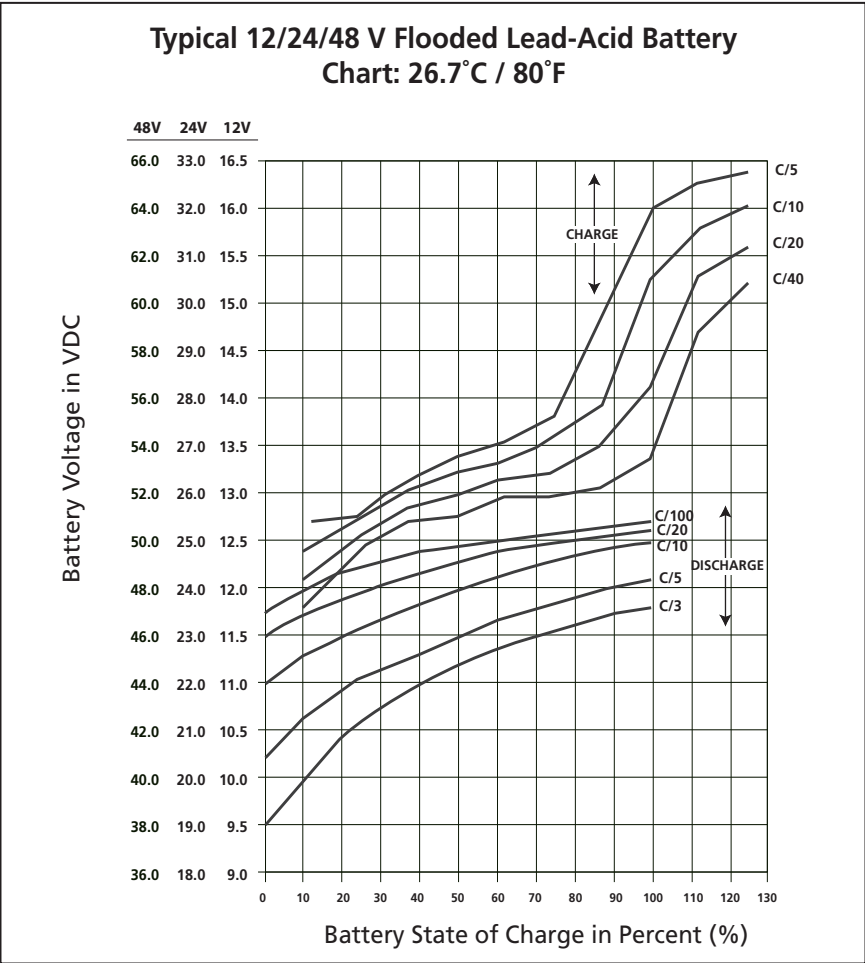

Fig 7.1 Charging/Discharging Curves for Typical 12V/24V/48 Flooded Lead Acid Battery
7.7.1 Fig 7.1 shows examples of State of Charge/Discharge Curves for different C-rates for typical 12 V / 24 V Lead Acid Battery at 26.7 °C / 80 °F. These curves are used to determine the State of Charge/Discharge of the battery based on its terminal voltage.
7.7.2 Example of Determining State of Charge (using Fig 7.1) when Charging 12 V, 100 Ah Battery at C-rate of 0.1C or C/10 or 10 A: Refer to Charge Curve marked C\10 of the upper 4 curves marked “CHARGE”. States of Charge at different battery terminal voltages will be: (a) At 15.3 V = 100% charged; (b) At 14.3 V = 90% charged; (c) At 13.5 V = 70% charged; (d) At 12.5 V = 15% charged
7.7.3 Example of Determining State of Discharge (using Fig 7.1) when Discharging 12 V, 100 Ah Battery at C-rate of 0.33 C or C/3 or 33.3 A: Refer to Charge Curve marked C\3 of the lower 4 curves marked “DISCHARGE”. States of Discharge at different battery terminal voltages will be: [a] At 9.5 V = 100% discharged (0% charged); [b] At 10.4 V = 80% discharged (20% charged); [c] At 11.5 V = 28% discharged (72% charged) and [d] 11.75 V = 0% discharged (100% charged)
The discharge curves in Fig. 7.1 show the % State of Charge versus the terminal voltage of typical Flooded Lead Acid Battery under different charge/discharge currents, i.e. "C-rates" and fixed temperature of 26 °C / 80 °F. (Please note that the X-Axis of the curves shows the % of State of Charge. The % of State of Discharge will be 100% - % State of Charge).
As stated earlier at Section 7.10, the buzzer alarm is triggered when the voltage at the DC input terminals of the inverter has dropped to around 10.7 V for a 12 V battery, 21.4 V for a 24 V or 42 V for 48.0 V battery at C-rate discharge current of C/5 Amps. Please note that the terminal voltage relative to a particular of State Discharge decreases with the rise in the value of the discharge current. For example, terminal voltages for a State of Discharge of 80% (State of Charge of 20%) for various discharge currents will be as given at: Table 7.5 (Refer to Fig 7.1 for parameters and values shown in Table 7.5):
Inverters are normally provided with a protection to shut down the output of the inverter if the DC voltage at the input terminals of the inverter drops below a threshold of around 10 V for a 12 V battery, 20 V for 24 V, or 40 V for 48 V battery. Referring to the Discharge Curves given in Fig 7.1, the State of Discharge for various C-rate discharge currents for battery voltage of 10 V / 20 V / 40 V is as follows: (Please note that the X-Axis of the curves shows the % of State of Charge. The % of State of Discharge will be 100% - % State of Charge):